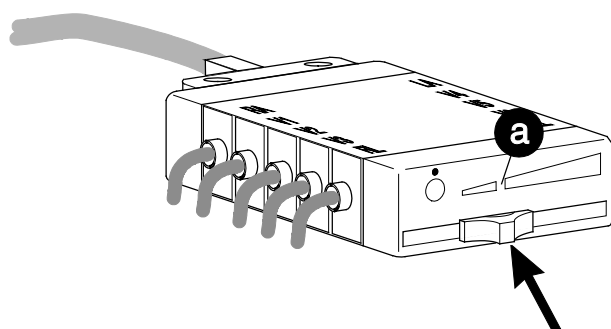

Figure 4-1. Negative pressure control at electrode distributor
**Hematomas Due to Vacuum—**For standard applications the negative pressure control should be set to the gap in the arrow marker (a, Figure 4-1). This setting is in most cases sufficient for resting ECGs, while exercise tests will require a slightly higher setting. Be careful to determine the correct negative pressure level required in the respective situations. Be aware that excessive negative pressure settings and prolonged electrode application times may provoke hematomas (change electrode sites, if required).